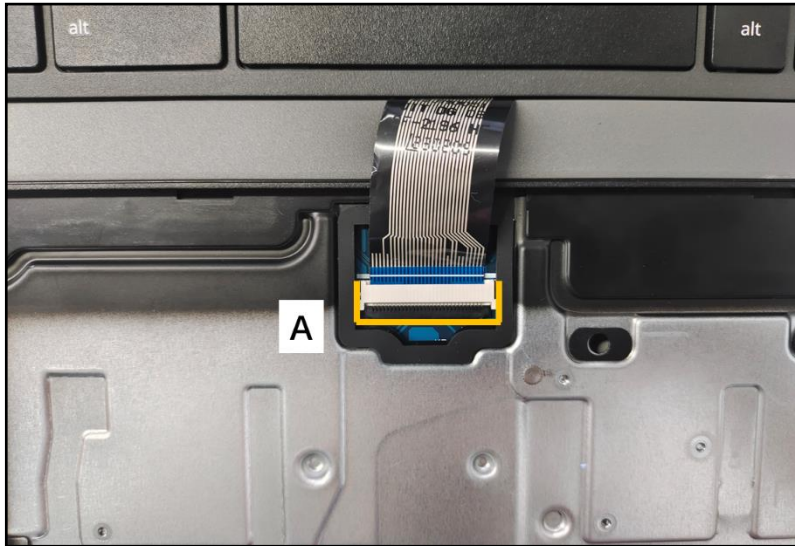

Figure 3-104. Replacing the Keyboard
1. Connect the keyboard FPC to the mainboard connector (A) (Figure 3-104).